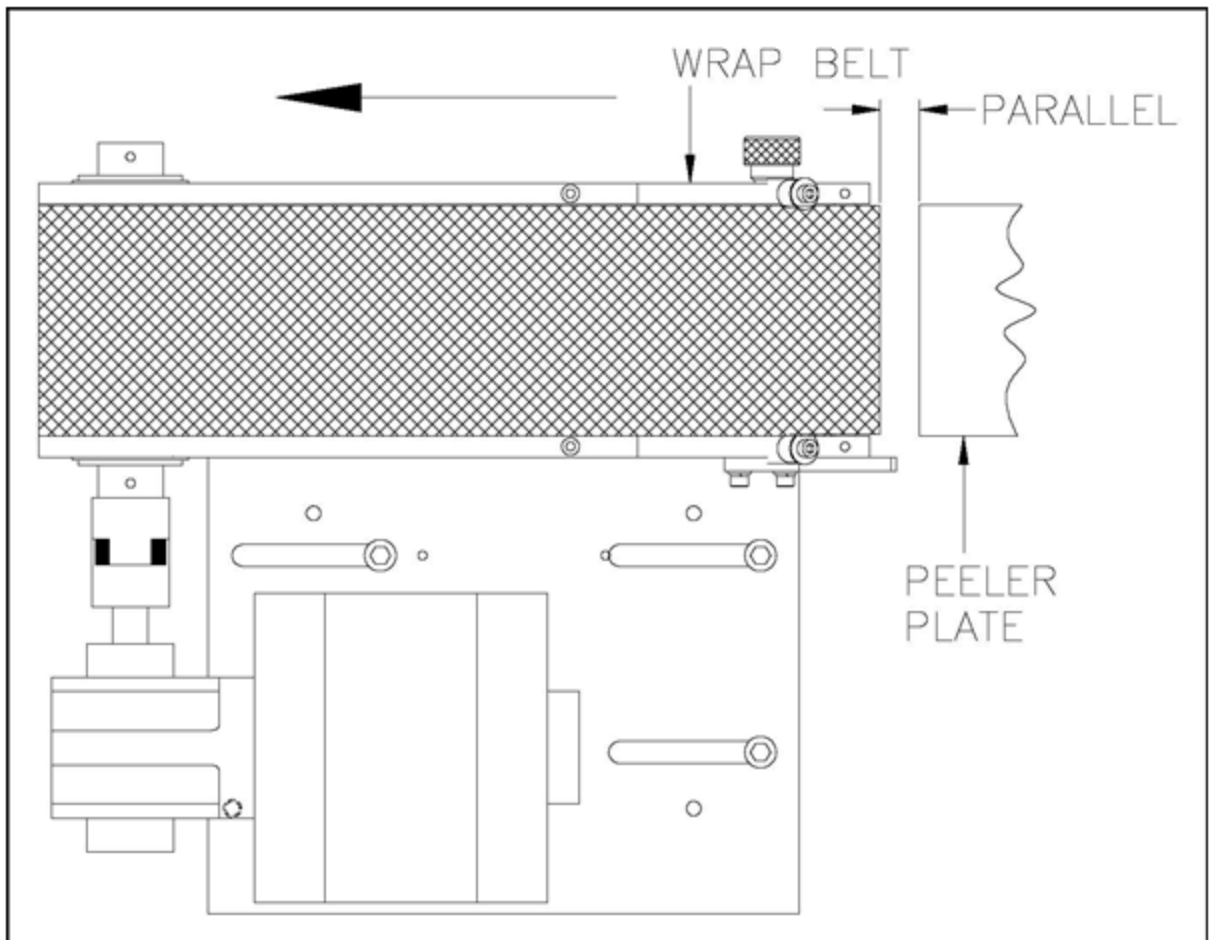

Figure 57 Peeler Plate Alignment
3. Adjust the tilt of the applicator so that the peeler tip is parallel to the wrap belt. (See Figure 57). Lock in position.